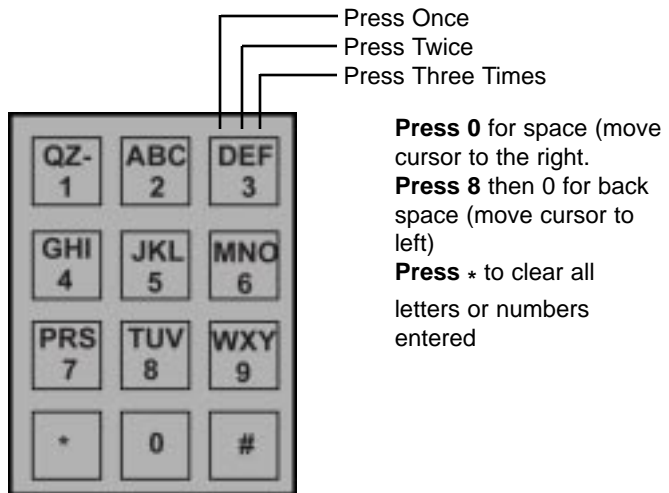

FIGURE 3.1
Step 3 Enter 16 -characters on the first segment by rewriting the existing message or pressing * to clear the segment and reenter the message, see keypad correlation on figure 3.1, press # on every character you have entered and press ## after the last character you have entered on each segment, then the display shows